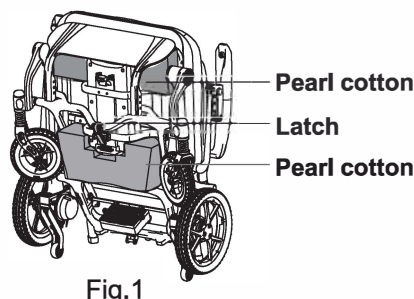
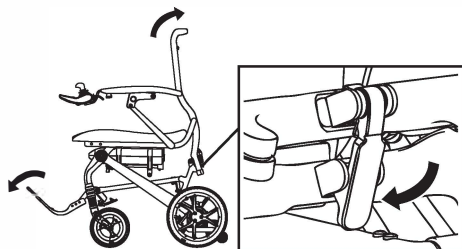

Fig.1
Fig.2
8.3.1 Open the box, take out the wheelchair, and remove the protective cushion. First flip the footrest forward, and then take out the pearl cotton protective pad in the battery compartment. When unfolding the wheelchair, please first find the latch under the footrest (**Fig.1**), slightly push the latch upward to unlock it, then press the backrest with one hand and the seat with the other hand, and pull the wheelchair forward and backward. When you hear a click, it indicates that the latch has been stuck into the locking pin (**Fig.2**), and the wheelchair has been unfolded.
The controller is turned on and the instrument display is normal. Press and hold the  and  buttons for about 3 seconds. After the controller emits 2 beeps, release the combination button to enter the engineering interface, as shown in Figure 1 (engineering interface 1) and Figure 2 (engineering interface 2):